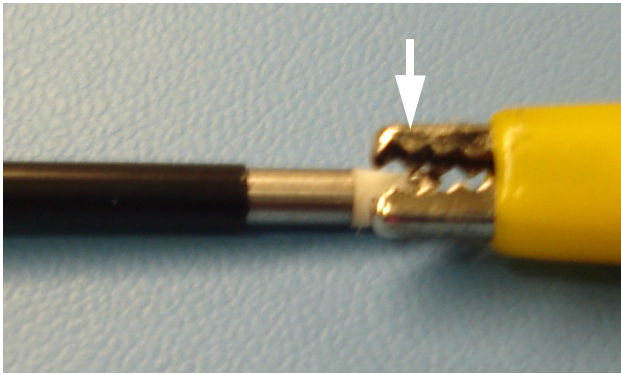

Figure 4
7. Connect the electrosurgical analyzer active input test lead to the active output of the SERFAS Energy probe (see Figure 4).